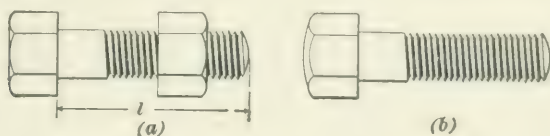

FIG. 43.
96. In *machine bolts*, or *bolts*, for short, one of which is shown in Fig. 43 (a), the shank and head are left rough, or just as they come from the bolt-heading machine. Machine bolts are regularly made in lengths varying by
half inches from $1\frac{1}{2}$ to 8 inches. Above 8 inches and up to 20 inches the length varies by whole inches. The length of a machine bolt is always measured under the head, as the distance l in Fig. 43 (a).
98. *Capscrews*, one of which is shown in Fig. 43 (b), are bolts with either hexagonal or square heads; they have the shanks turned and the heads finished all over by milling and turning. Unlike machine bolts, they are usually furnished without nuts, unless especially ordered.